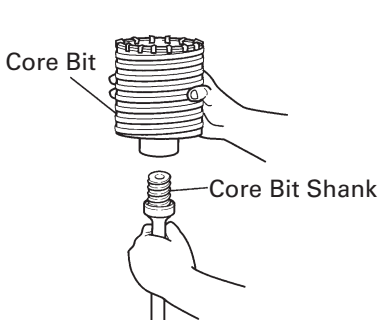

Fig. 13
- (1) Mount the core bit to the core bit shank. (Fig. 13)